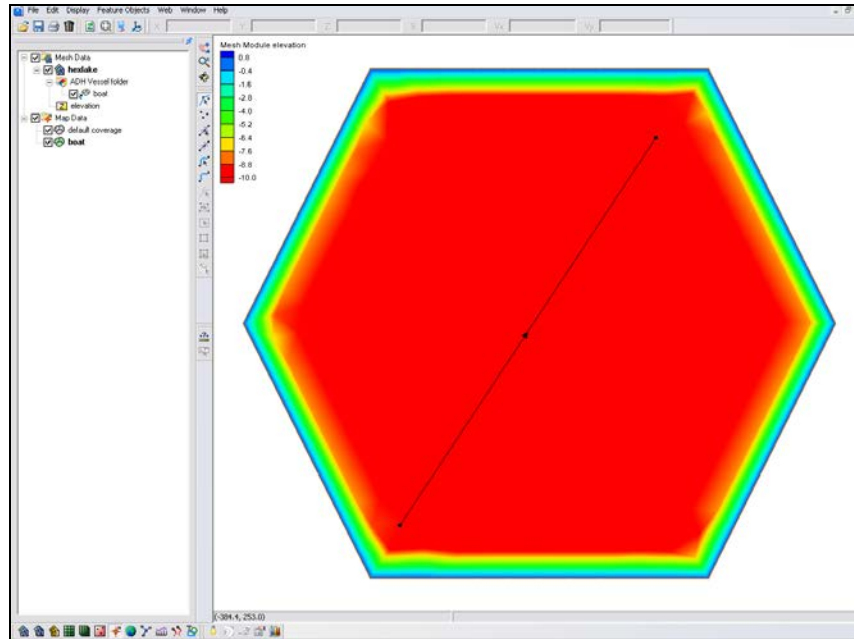

Figure 1. First Boat Path and simulation link under Mesh module.
4. Drag the boat coverage onto the “hexlake” mesh. This will create a link to that boat coverage, indicating that we want it included in the simulation. Figure 1 shows the Project Explorer with the created link for the ADH simulation under the Mesh Module.